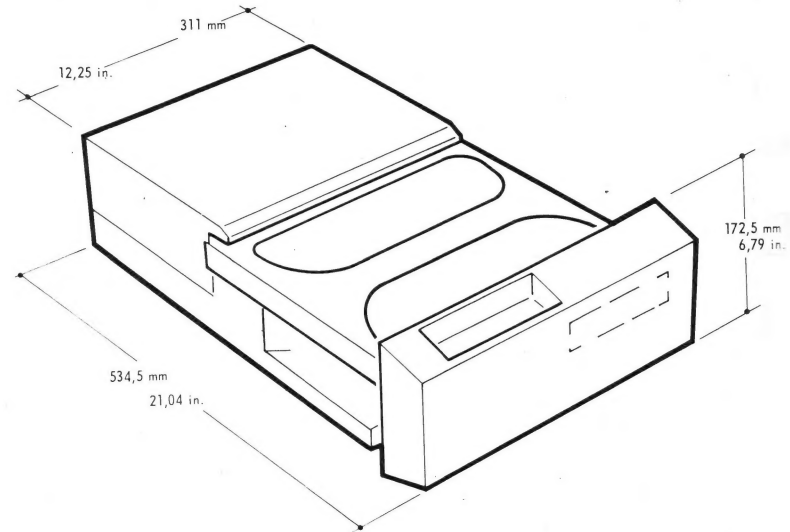

Figure 1.1
1.3 PHYSICAL CHARACTERISTICS (See Figure 1.1)